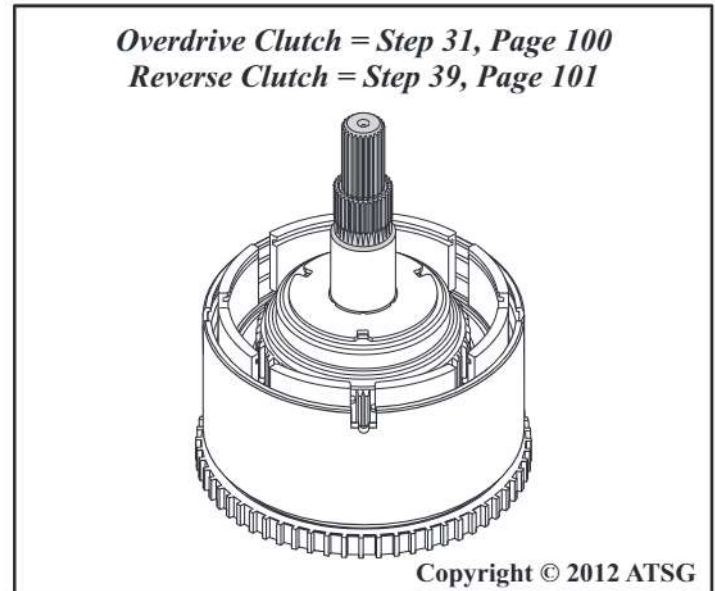

Figure 196
54. Re-install overdrive and reverse clutch as shown in Figure 196. Overdrive = Step 31, Page 100. Reverse = Step 39, Page 101.